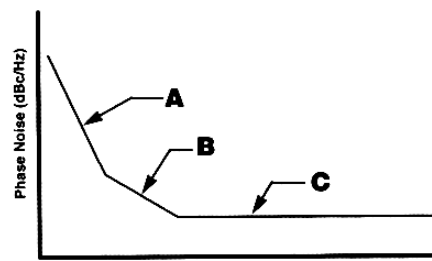

Figure 1
**Figure 1.** Fundamental noise limits for an hypothetical long baseline laser interferometer (including the effects of support wire resonances). It has been assumed that the effects of quantum light pressure are negligible at the predicted power level.